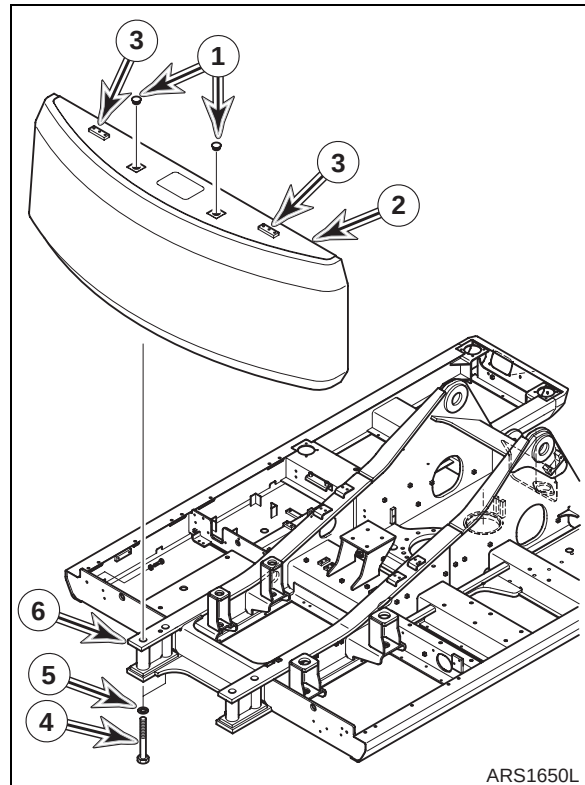

Figure 4
12. Remove two caps (1, Figure 4) from counterweight (2).
13. Install two lifting eyes in lifting holes (3, Figure 4).
14. Using a suitable lifting device capable of handling load, partially support counterweight (2, Figure 4) before beginning to loosen four bolts (4). Stop lifting with assist crane as soon as lifting slings are taut.
15. Remove four bolts (4, Figure 4) and washers (5) from counterweight (2).
16. When bolts (4, Figure 4) and washers (5) have been removed, lift counterweight (2) a very short distance above support frame (6) and stop. Check slings and make sure counterweight is being supported evenly.